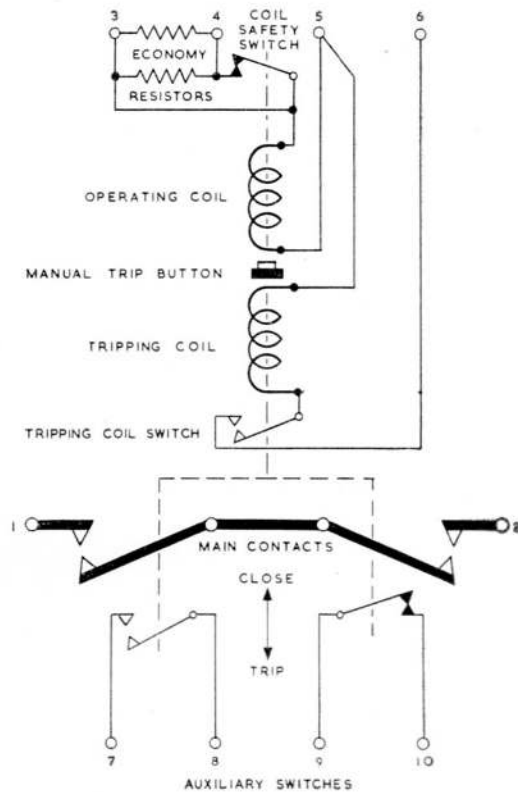

Fig. 3. Diagram of internal connections
6. Measure the resistance of the operating coil between the appropriate terminals on the four way terminal block (fig. 3) with the main contacts open. When corrected to a temperature of 20 deg. C, the coil resistance should be $3.7 \text{ ohm} \pm 5 \text{ per cent}$. With the switch latched in the "closed" position, measure the resistance of the tripping coil, and of the operating coil in circuit with its